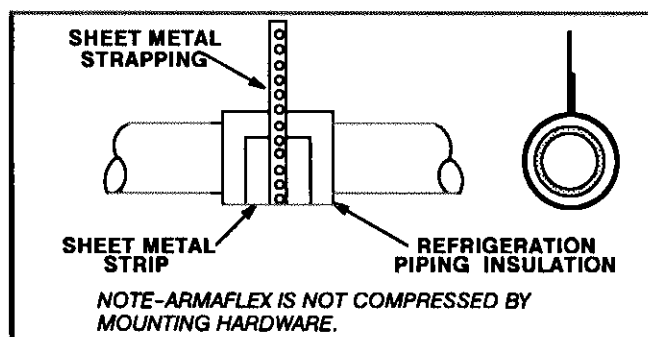

FIGURE 20
- 12- Suspend piping at a minimum of every 5 feet using isolation hangers. A suitable hanger can be fabricated by putting a sleeve of Armaflex refrigeration piping insulation around the pipe and suspending it using metal strapping as shown in figure 20. Place a small sheet metal strip between the Armaflex and the metal strapping to prevent crimping. Do not secure piping directly to joist or flooring.
- 3- Suspend piping at a minimum of every 5 feet using isolation hangers. A suitable hanger can be fabricated by putting a sleeve of Armaflex refrigeration piping insulation around the pipe and suspending it using metal strapping as shown in figure 20. Place a small sheet metal strip between the Armaflex and the metal strapping to prevent crimping. Do not secure piping directly to joist or flooring.